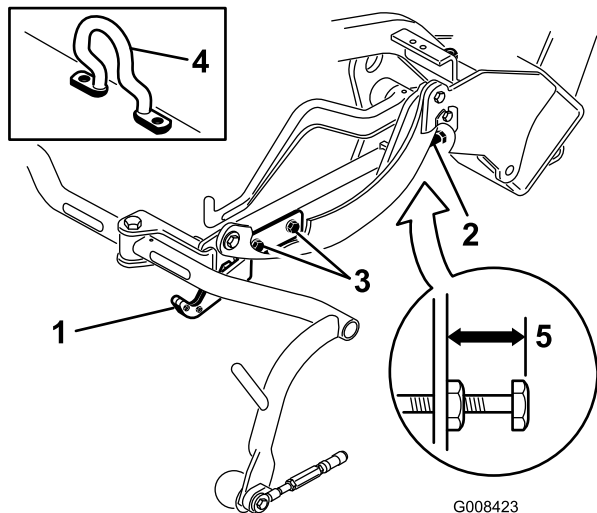
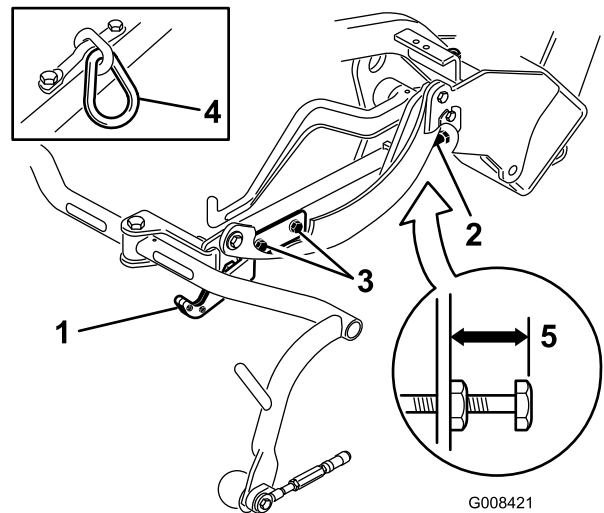
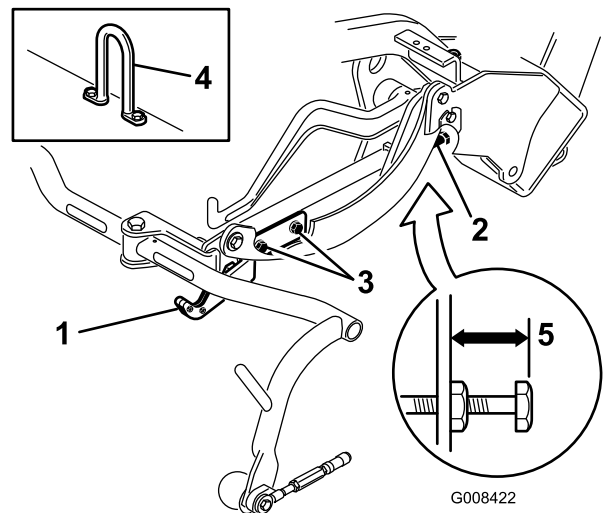

Figure 12
Figure 13
Figure 14
Check the transport height (Figure 13 & Figure 14) and adjust, if required.
2. On cutting units equipped with a offset lift hook (Figure 12, inset) verify that the distance from the top of the carrier frame adjusting screw to the back of the carrier frame is 25 mm (1 inch). If the distance is not 25 mm (1 inch), proceed to step 4.
3. On cutting units equipped with a chain link or a straight lift hook (Figure 13 & Figure 14, insets) verify that the distance from the top of the carrier frame adjusting screw to the back of the carrier frame is 22 mm (7/8 inch). If the distance is not 22 mm (7/8 inch), proceed to step 4. If the cutting unit is equipped with an offset lift hook (Figure 12), proceed to the next step.
4. Loosen the transport plate mounting screws (Figure 13, Figure 14 and Figure 12).
(Figure 12, Figure 13, and Figure 14). Rotate the screw outward to raise and inward to lower. Tighten the jam nut after the proper height is obtained.